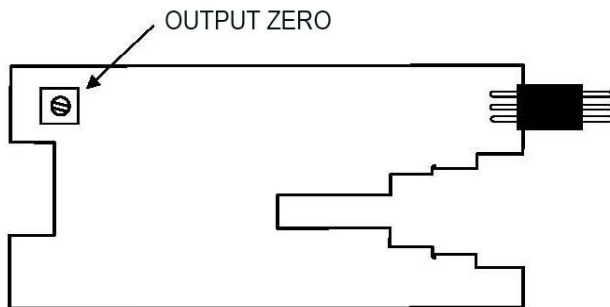

Figure 7 Adjustment Location S/N 1000 and higher
6. Adjust **OUTPUT ZERO** on the board until the DMM reads $0\text{ V} \pm 100\text{ }\mu\text{V}$. Refer to Figure 7 Adjustment Location S/N 1000 and higher for adjustment location.